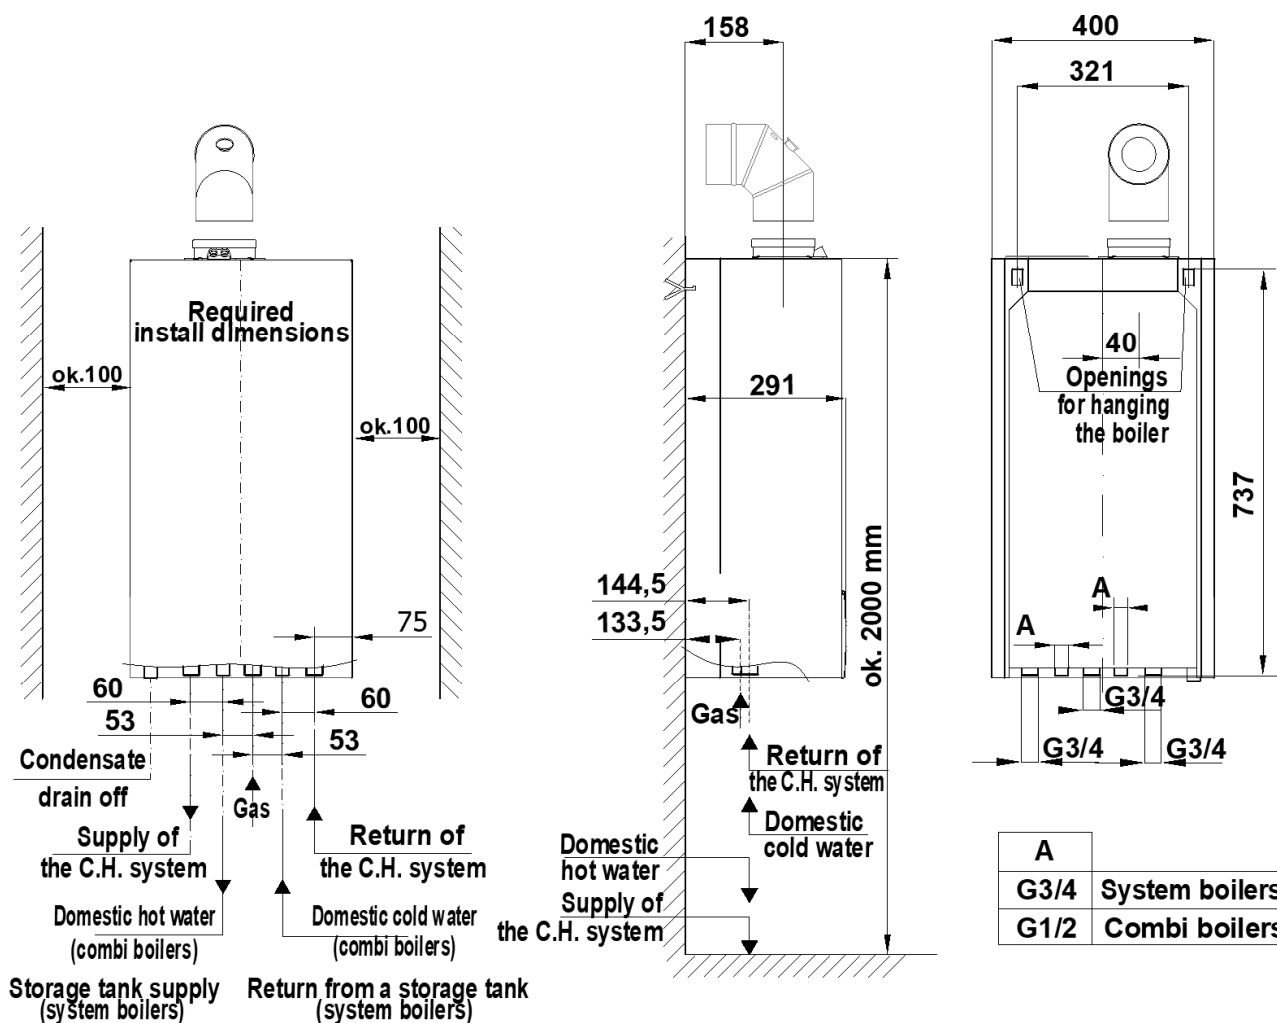

Fig. 3.3.1 Installation dimensions of ECOCONDENS SLIM
- Power connector and connector of return of the central heating boiler should be screwed to the installation. Location of the connectors is shown on the figure 3.3.1
- It is recommended to lead out a water from a safety valve 0,3 MPa (3 bar) (item 25) to a floor drain by a tube or hose otherwise during the safety valve activation there is a risk of flooding a room what is excluded of producer's liability.